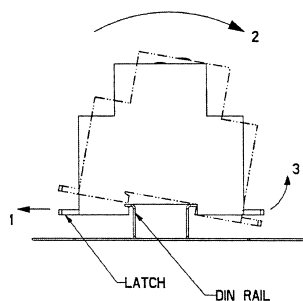

FIGURE 1
A. Removing the main switch from the DIN-RAIL (SEE FIGURE 1)